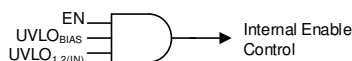

图 3. Simplified Turnon Control
Controlling when a single power supply turns on can be difficult in a power distribution network (PDN) because of the high power levels inherent in a PDN, and the variations between all of the supplies. As shown in 图 3 and 表 2, the LDO turnon and turnoff time is set by the enable circuit (EN) and undervoltage lockout circuits ($UVLO_{1,2(IN)}$ and $UVLO_{BIAS}$).